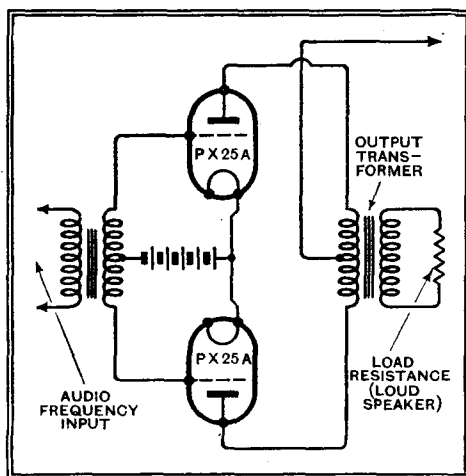

Fig. 1. The fundamental push-pull circuit.
**T**HE push-pull principle has been extensively applied to power output stages with a view to combining the output of two valves, with the added advantage of great purity of reproduction. The circuit (see Fig. 1) can also lead to a very considerable increase in the output over that obtainable from the same pair of valves connected in parallel, but this aspect of the arrangement appears to have been rather overlooked.